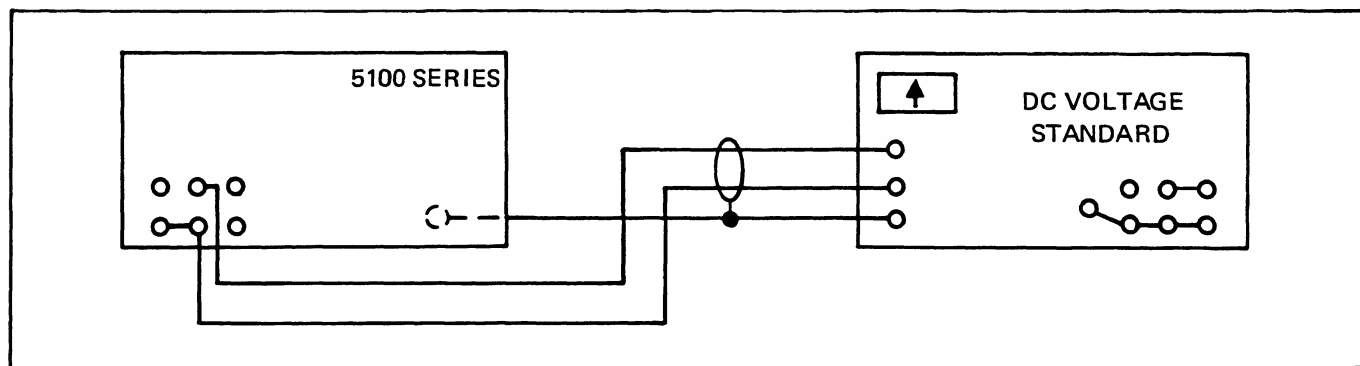

Figure 4-12. Differential Connections
1. Connect the equipment as shown in Figure 4-12.
5. Connect the equipment as shown in Figure 4-12.